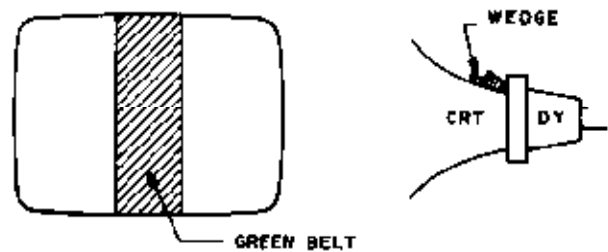

Figure 4 Video Image for Color Purity Adjustment
- 2.8 Pull the deflection yoke backward so that a green dot appears on the screen (see Figure 4).
- 2.17 Insert a wedge temporarily as shown in Figure 4; adjust the angle of the deflection yoke.